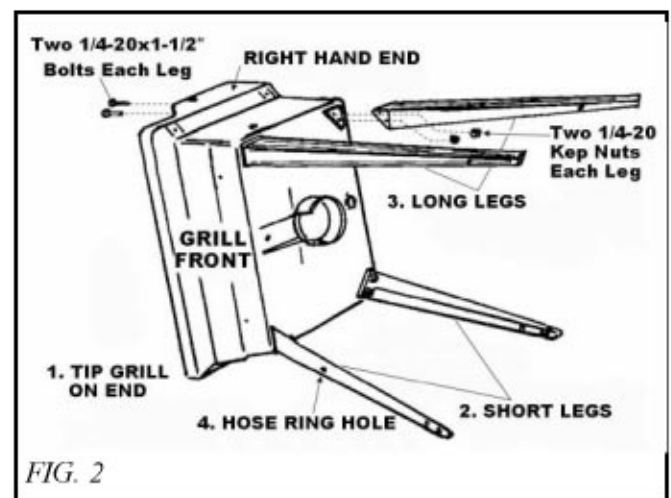

FIG. 2
Step 1: Leg Assembly (Fig 2)
1. Tip the grill head bottom on end as shown in Fig. 2 (TIP: work on protected area such as: carpet, tarp or one of the boxes to protect cart finish).